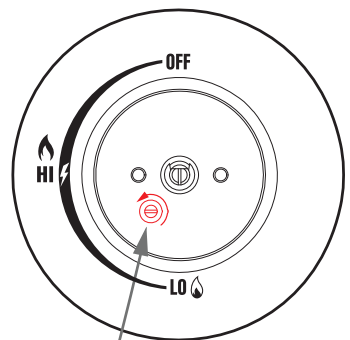

FIG. 4 - VALVE REGULATION SCREW
- b) Locate the burner's valve regulation screw as shown in Figure 4. Adjust gas flow to natural gas by turning the valve regulation screw in an anticlockwise direction until the limit/stop is reached (for reference the ULPG position for this is 3.5 turns clockwise from the NG position).